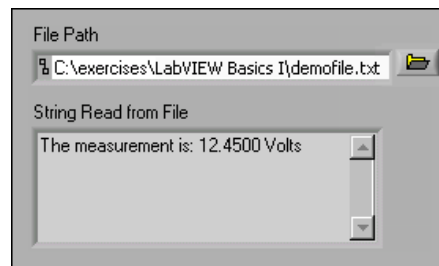

Figure 9.17
1. Open a blank VI and build the front panel shown in Figure 9.17 using the file path control located on the **Controls**»**Text Controls** palette and a string indicator located on the **Controls**»**Text Indicators** palette.